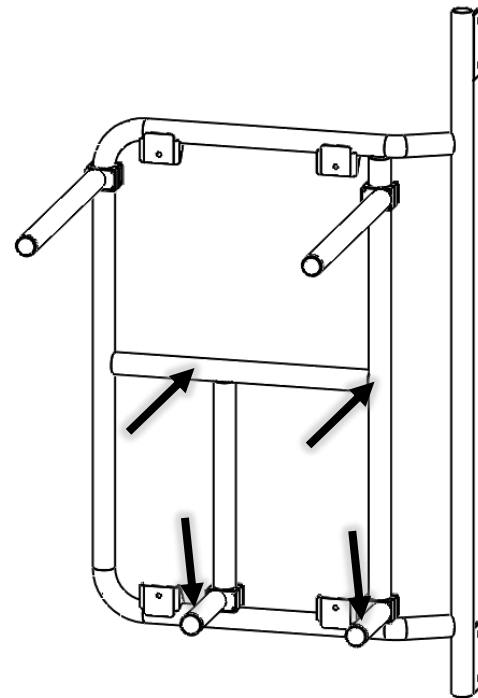

Figure 4: Box Through-Bolt Locations
4. Tighten the four (4) bolts on each support.
5. Install the bolt-on tire/box supports onto the vertical members of the base unit rack near the top of the rack as shown in Figure 4. Be sure to leave enough room for the box and bike tray attachments.